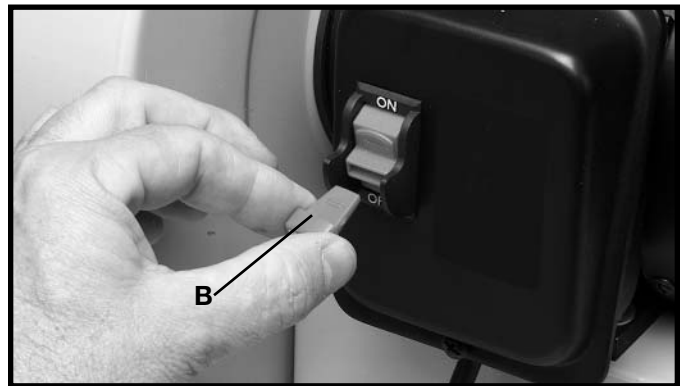

Fig. 25
IMPORTANT: When the machine is not in use, the switch should be locked in the “OFF” position to prevent unauthorized use. This can be done by grasping the switch toggle (B) Fig. 25, and pulling it out of the switch as shown. With the switch toggle (B) removed, the switch will not operate. However, should the switch toggle be removed while the machine is running, it can be turned “OFF” once, but cannot be restarted without inserting the switch toggle (B).